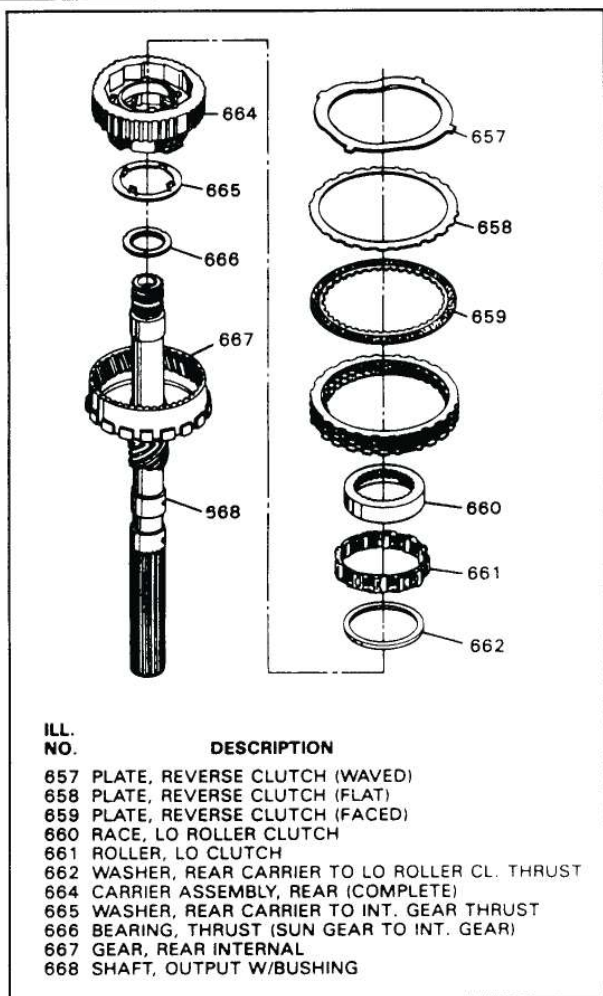

Figure 65
- Inspect the output shaft and the rear internal gear for any wear and/or damage (See Figure 65).
- Install the 4 tanged thrust washer onto rear carrier, and retain with "Trans-Jel" (See Figure 65).
- Install the rollers into cage of the low roller clutch as shown in Figure 65.
- Install thrust washer (662) into the rear carrier, as shown in Figure 65.
- Install the low roller clutch assembly into the rear carrier (See Figure 65).
- Install the roller clutch inner race, with the spline side facing out, into the rollers by rotating counter clockwise into position and pushing down for full engagement (See Figure 65).
- Install the thrust bearing (666) into the rear ring gear, as shown in Figure 65.
- Install the Lo/Reverse clutch plates into the case, beginning with a steel plate and alternating with a lined plate (See Figure 65).
29. You should end up with a steel plate going in the case last, as shown in Figure 65.
30. Install the Lo/Reverse "Wave" plate on top of the last steel plate, as shown in Figure 65.